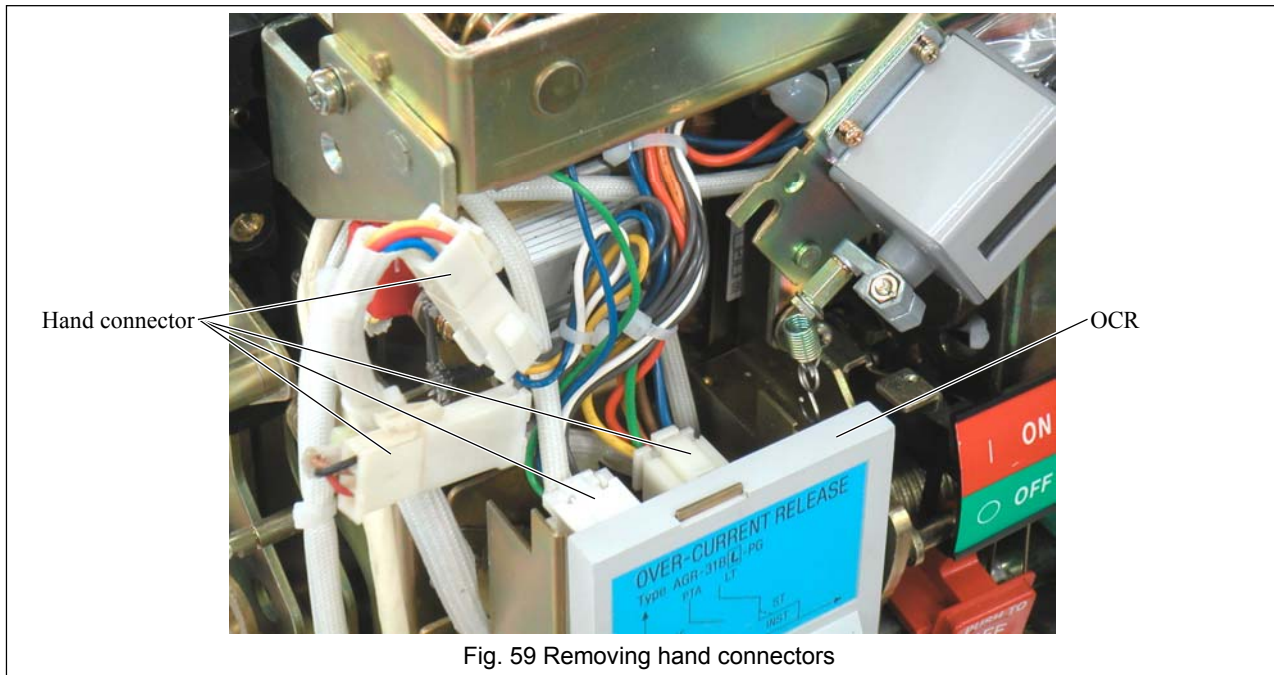

Fig. 59 Removing hand connectors
- 6) Pull out the OCR as shown in Fig. 59, remove the hand connector(s) above the OCR and place it on the floor. The hand connector(s) below the OCR does not require to be removed. The type and quantity of the hand connectors vary depending on the specification of the ACB.